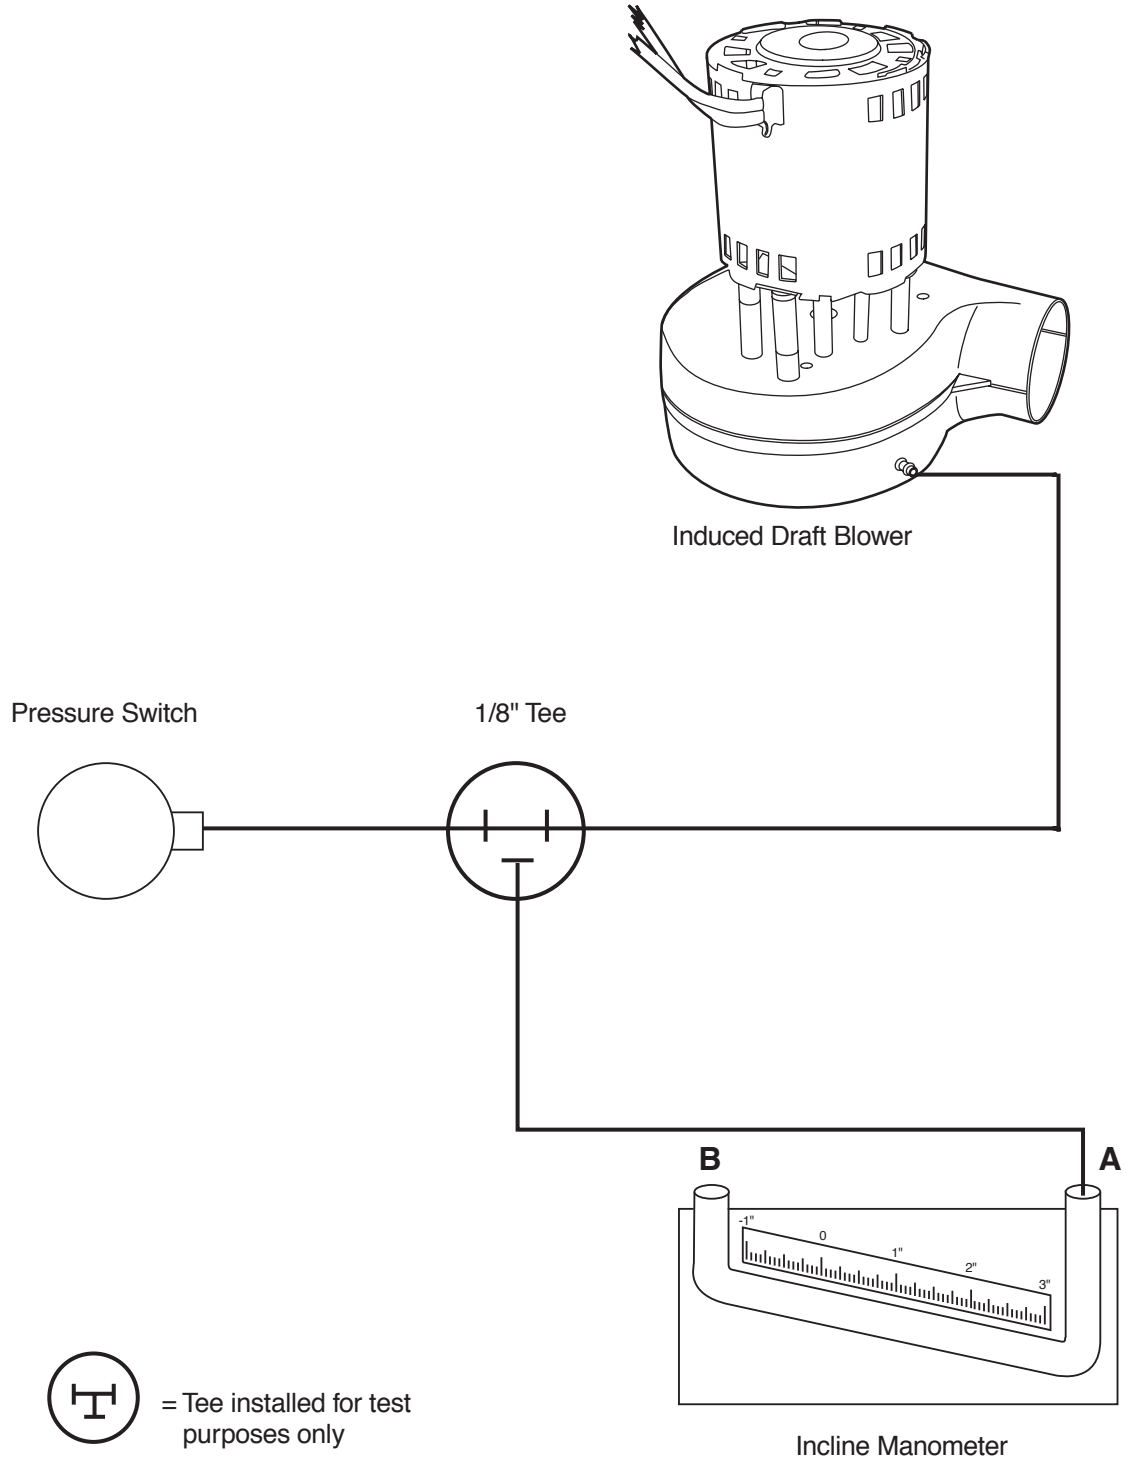

FIGURE 5-20 Incline Manometer Connection
For a blocked intake or blocked flue, connect the incline manometer as shown on in Figure 5-20 on page 5-27 for the specific model groups.
2. Insert a test line with tee between the pressure switch and blower. One piece of the tubing connects the pressure switch to the fitting at the back side of the induced draft blower housing. Connect the tee to the manometer as shown in Figure 5-20.